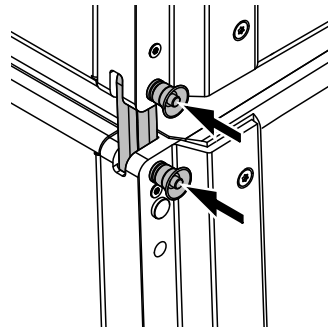

Fig. 3: SUB to SUB 2° splay, free
3. SUB to SUB with 2° splay (free) between the cabinets (⇒ Fig. 3).